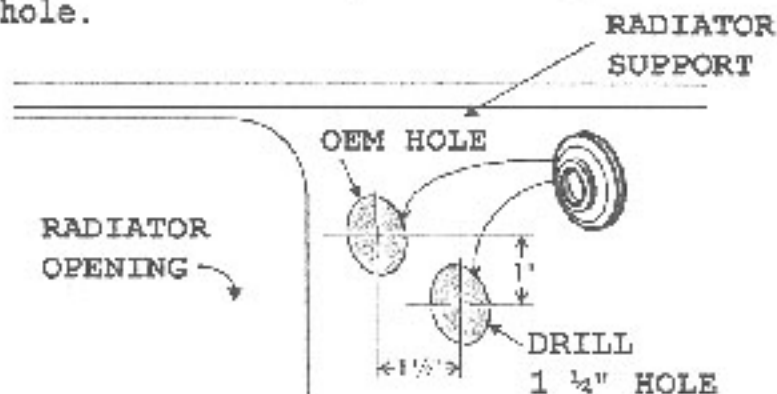

FIGURE 14
1. Drill a 1 1/4" hole in the location shown in Figure 14. A 1/8" pilot hole may need to be drilled to insure proper location of the 1 1/4" hole.
2. INSTALL (2) RUBBER GROMMETS IN HOLES (SEE FIGURE 14, PG 6B) TO THE DRIVERS SIDE OF THE RADIATOR AS FIGURE 11 SHOWS.